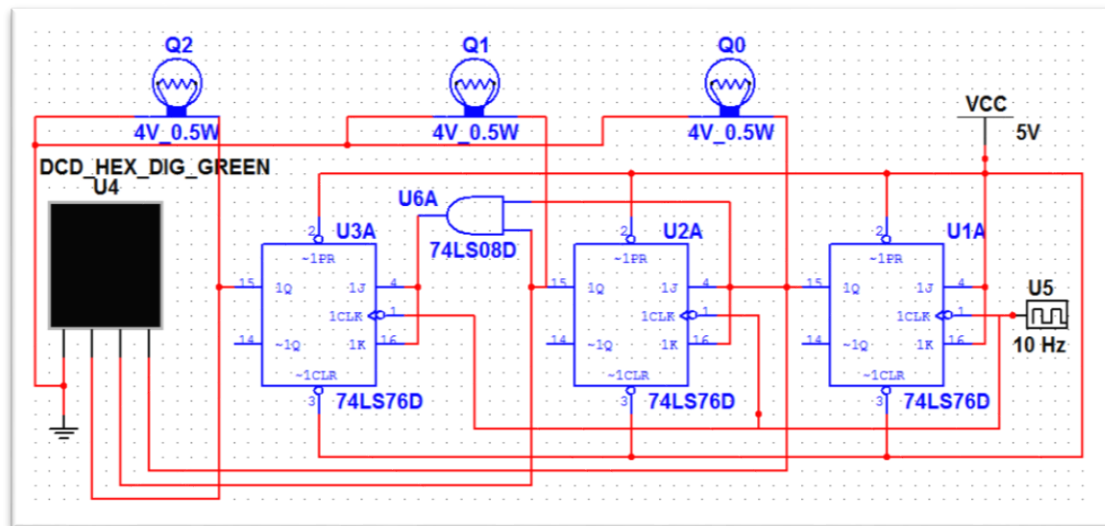

Fig 9.6: 3 bit Synchronous Counter
1. Design the circuit on the bread board as shown in Figure 9.6.